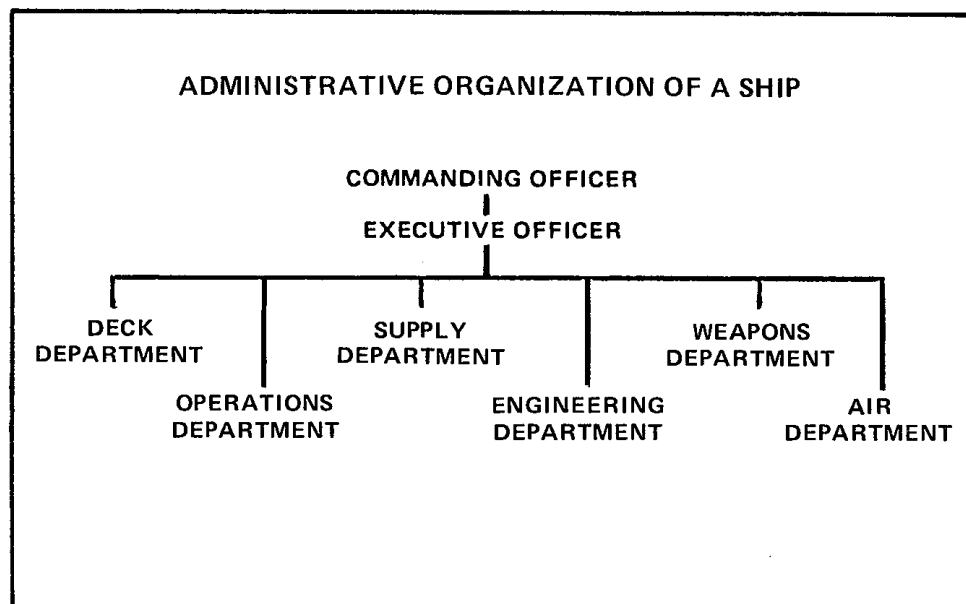

Figure 9-10 Administrative Organization of a Ship
43. **Division of Watches** — There are two systems of dividing a ship's company into watches (see Figure 9-10). One is **Port and Starboard** and the other is **Red, White, and Blue**. The Port and Starboard system is further split into two parts, namely **First of Port** and **Second of Port**, **First of Starboard** and **Second of Starboard**. Normally only one part of a watch is actually keeping a watch at any given time. Thus a ship is so organized through the watch and station bill that the ship's company may be divided into two, three, or four watches at sea, and more in harbour. That is, the number of men required on watch at any one time is adjusted to the circumstances. For example, under normal peacetime cruising or exercising, the ship will be in three watches.